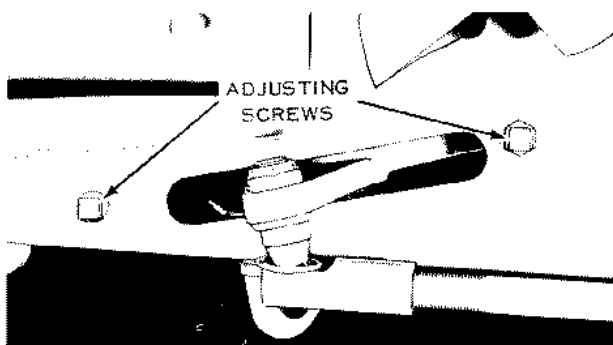

Figure 17
- a. You will find a slot in the right hand frame at the rear of the steering drag link where it connects to the steering gear. (See Figure 17.) Near each end of this slot is a square head setscrew, with lock nut, inserted in the frame.